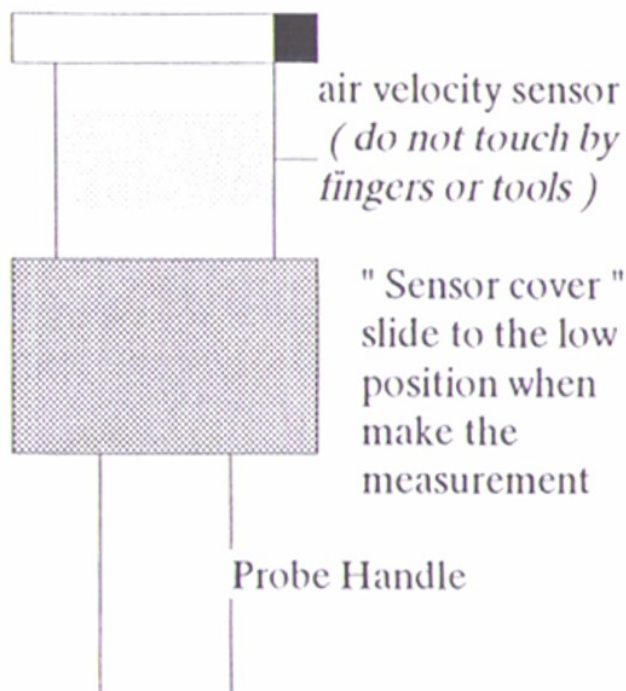

Fig. 3
- 6) a. Slide the sensor cover to the down position, let the air velocity sensor to contact the air, refer Fig. 3.